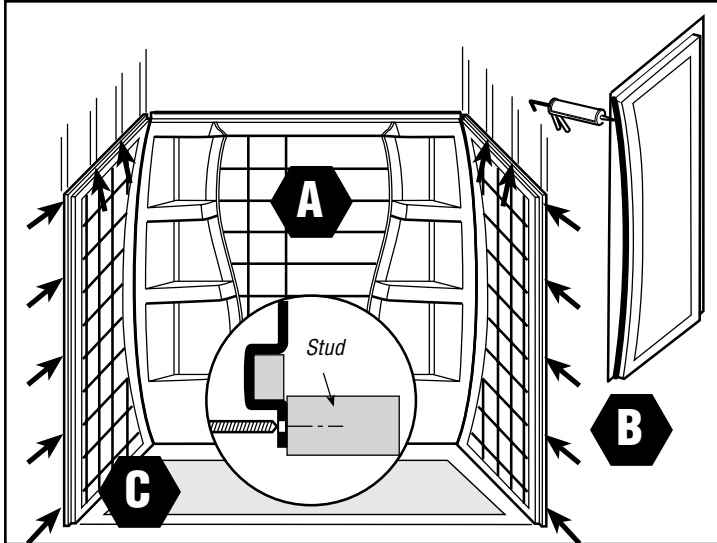

Figure 4
- 5** Apply a bead of adhesive down each stud that will come in contact with the side panels. Also lay a caulk bead in the corner of side panels as shown in (Figure 4). Install each side panel by sliding panel firmly into corner. Press each panel firmly to ensure proper adhesion to studs. Locate and drill a 3/16" hole in the center of the nailing flange at the top of the panel and centered on each stud. Also drill 3/16" holes in the front nailing flange on each side panel at approx. 12" intervals, centered on the flange (Figure 4). Hammer 3/4" galvanized roofing nails through each hole and into the studs, securing the wall panel.